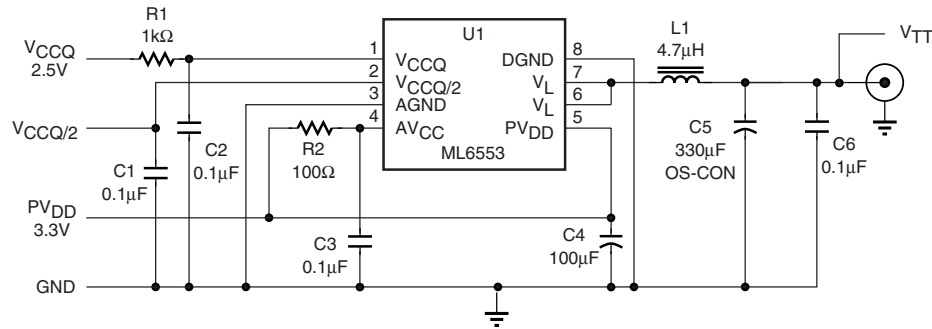

Figure 2. Application Schematic
- Specifications are taken from the application circuit in Figure 2 using the recommended component values.
A typical application circuit schematic is shown in Figure 2, and a sample layout is shown in Figure 3.
Where L_{DCR} is the DC resistance of the output inductor, L_1 in Figure 2, and 0.020 is the source resistance of the output V_{L} . Both L_{DCR} and 0.020 are in Ohms.